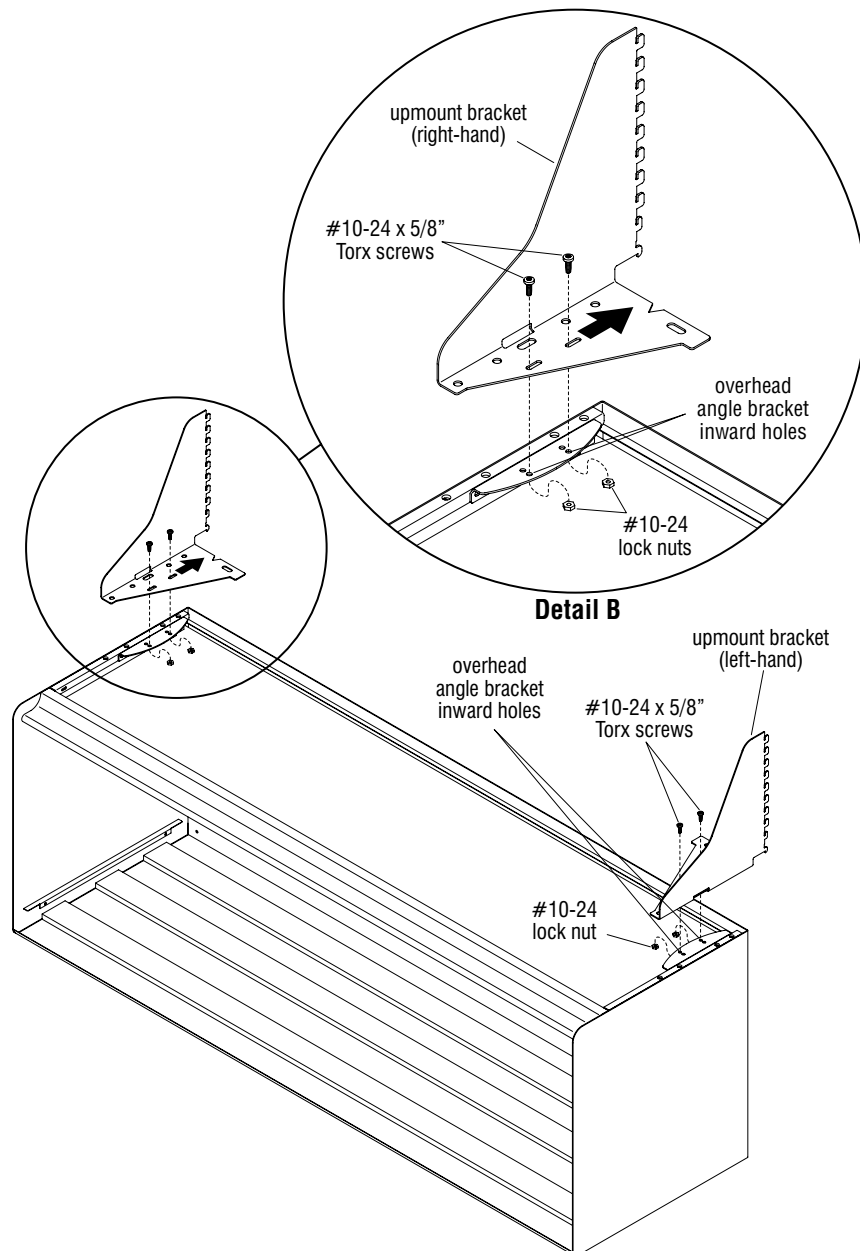

Figure 2 - Upmount Bracket Installation
5. Position an upmount bracket (right-hand shown, Detail B) overhead angle bracket as illustrated and align the two slots of the upmount bracket with the two inward mounting holes on the angle bracket, as illustrated. With holes properly aligned, insert two #10-24 x 5/8" Torx screws through the mounting holes. From under the overhead angle bracket, twist on two #10-24 locking nuts. Using a 3/8" wrench to hold the nuts and a T25 Torx driver on the screws, tighten both sets of fasteners while pressing the upmount bracket toward the back of the cabinet (see arrow), such that the screws are to the front of the slots in the upmount bracket, when completely tight (Figure 2 & Detail B).
6. Follow the step above to correctly position and secure the left-hand upmount bracket to the left-side overhead angle bracket, taking care to assemble through the inward mounting holes as was done with the right-hand side (Figure 2).